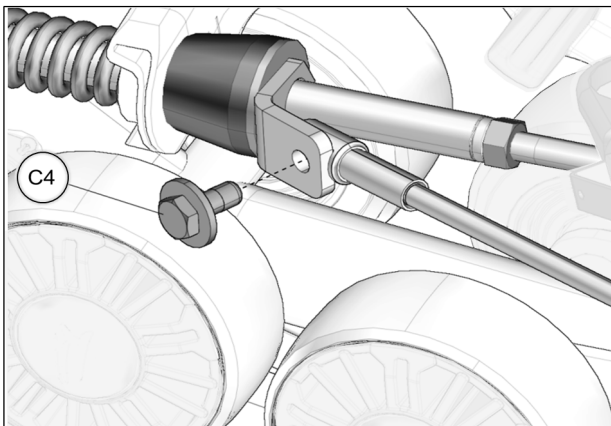

Fig. 28
17. Reverse steering wheel a little to be able to bolt support plate and cable together. Tighten provided bolt (C4) to 35 N•m [24 lb•ft]. See Fig. 28. Repeat steps on right side.